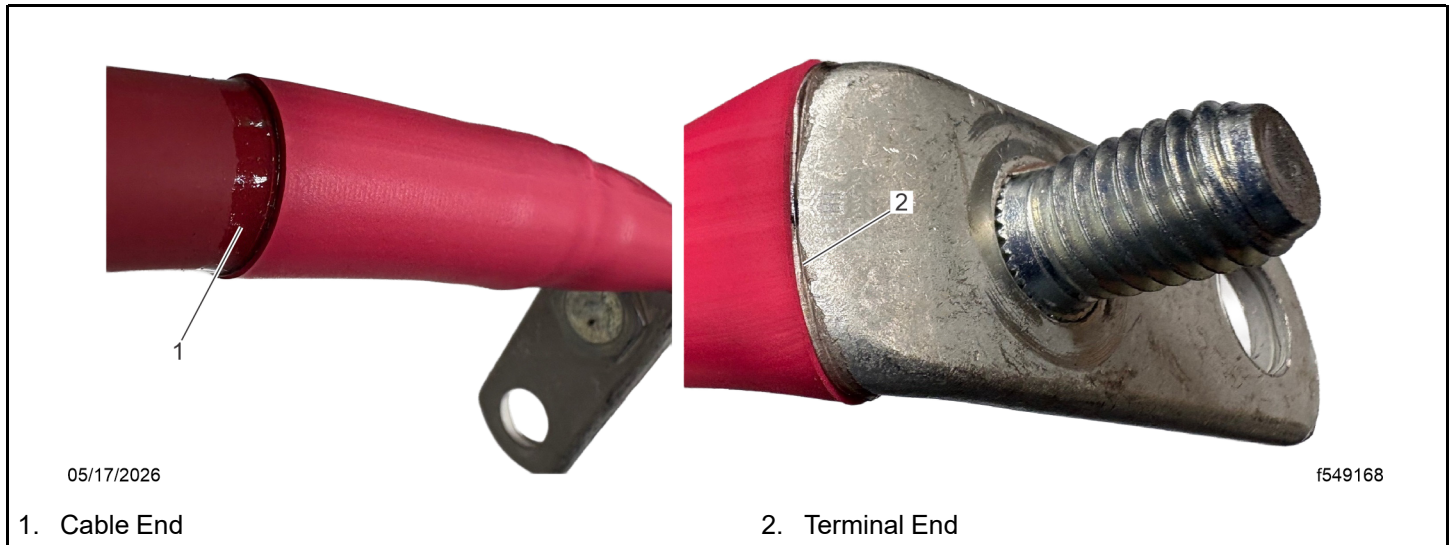

Fig 121, Continuous Adhesive Seal at Cable and Terminal Ends
- c. Confirm a continuous ring of adhesive can be seen around the circumference of the sleeve at both ends. See Fig. Fig. 121.